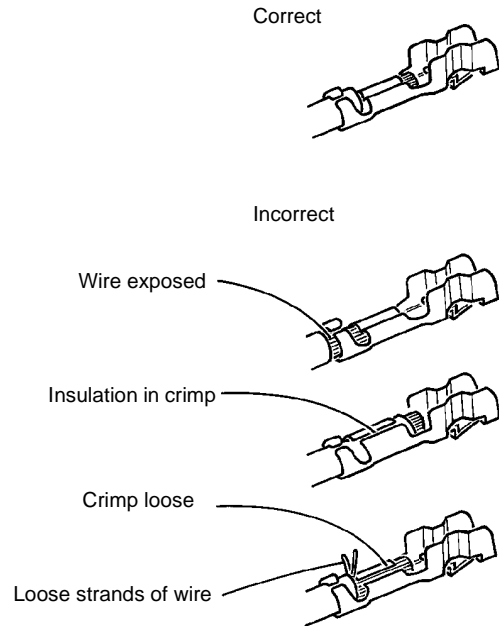

Figure 5 Inspect the finished crimp
5. **Figure 5.** Check that the crimp is correctly made.